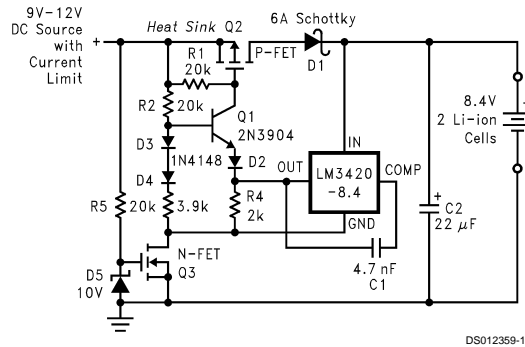

FIGURE 11. MOSFET Low Dropout Charger
*Figure 11* shows a low dropout constant voltage charger using a MOSFET as the pass element, but this circuit does not include current limiting. This circuit uses Q3 and a Schottky diode to isolate the battery from the charging circuitry when the input voltage is removed, to prevent the battery from discharging. Q2 should be a high current (0.2Ω) FET, while Q3 can be a low current (2Ω) device.